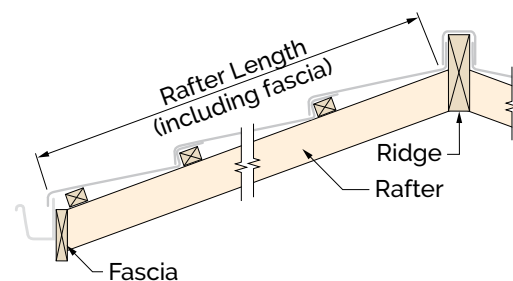

Figure 2.2.1
I. Determine the rafter length (Figure 2.2.1) and calculate the number of courses of tiles using formula 1 or from Table 2.2.1.